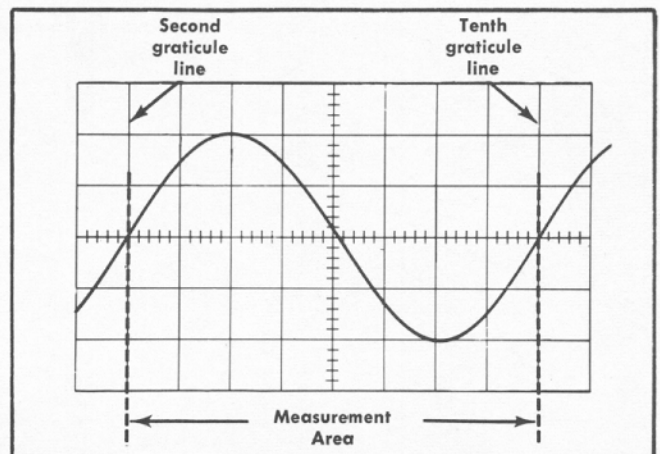

Fig. 2-5. Measuring the time duration of a waveform.
When making time measurements from the graticule, the area between the second and tenth graticule lines provide the most linear display. Set the TIME/CM switch so that the timing area falls between the second and tenth graticule lines as illustrated in Figure 2-5. When measuring displays of less time duration than eight centimeters, position the display near the center of the CRT.
4. Set the TIME/CM switch to the fastest sweep rate that displays eight centimeters or less between the time measurement points (see Fig. 2-5). See the topic entitled "Selecting Sweep Rate" in this section concerning nonlinearity of the first and last centimeter of the display.
**Example.** Assume that the distance between the time measurement points is eight centimeters (see Fig. 2-5) and the TIME/CM switch is set to 5  $\mu$ SEC. Using the formula:
**Example.** The frequency of the signal shown in Figure 2-5 which has a time duration of 40 microseconds is: